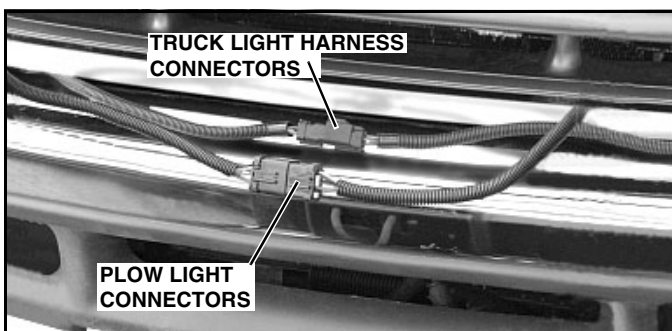

Figure 1-34
5. To make the truck lights operable, plug the male and female EIS® connectors on the truck light harness together. (See Figure 1-34).